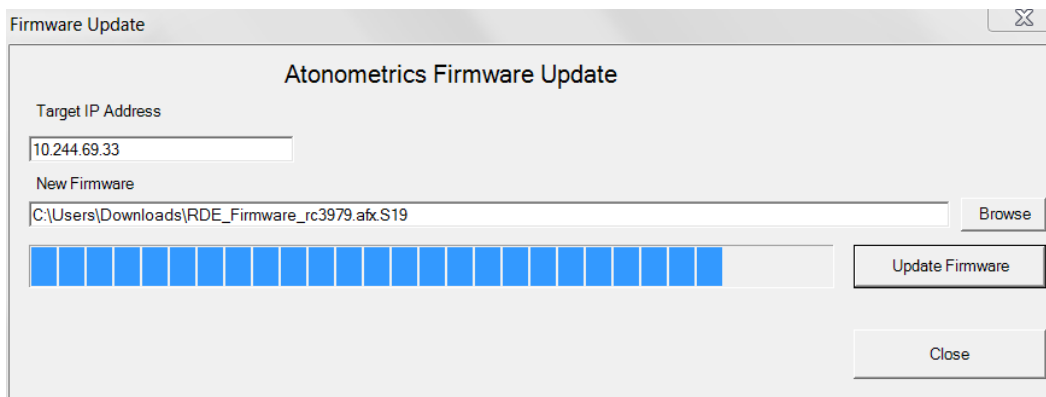

Figure 9-19: Firmware update progress bar
- Press the “Update Firmware” button to transfer the firmware file to the RDE, and verify if prompted. The firmware transfer process will begin and a progress bar will be displayed on the dialog as shown in Figure 9-19.